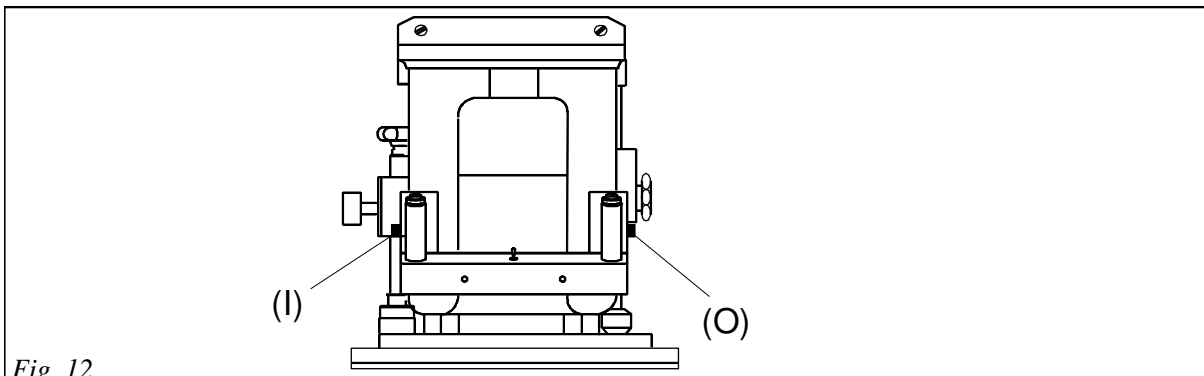

Fig. 12
- b)** actuate either the pushbutton for travelling head displacement from right to left (O and L1) or the pushbutton for travelling head displacement from left to right (I and L2) until the travelling head covers the cutting-knife completely (Fig. 12);